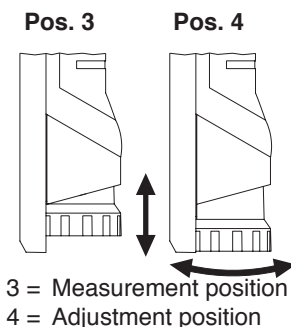

FIG. 6
The 3-roller-system for tension measurement relies on the displacement of the middle roller (measuring roller) to give an indication of the line tension. As the material thickness changes, there will be a change in the tension reading, even when the line tension has not changed. To compensate for this effect, high-range instruments are usually equipped, as necessary, with a material thickness compensator, which automatically shifts the outer rollers. To adapt the tension meter to the diameter of the material to be measured, push the thumbpiece into the adjustment position “0” (Section 4.0) and pull the thumbwheel of the material thickness compensator backward to the adjustment position (Figure 6). Turn it clockwise or anti-clockwise until the desired diameter, such as , appears in the upper right part of the display. Then push the thumbwheel of the material thickness compensator back to the measurement position (Figure 6). If you set a diameter that has not been calibrated for the selected material characteristic, the set diameter is displayed with a black background color, e.g., **ø0.26mm** the tension meter can be used anyhow, but please note, that depending on the material to be measured, slight deviations in the measured values might occur.
1. The thumbpiece must be in the adjustment position(4) (Fig. 6).